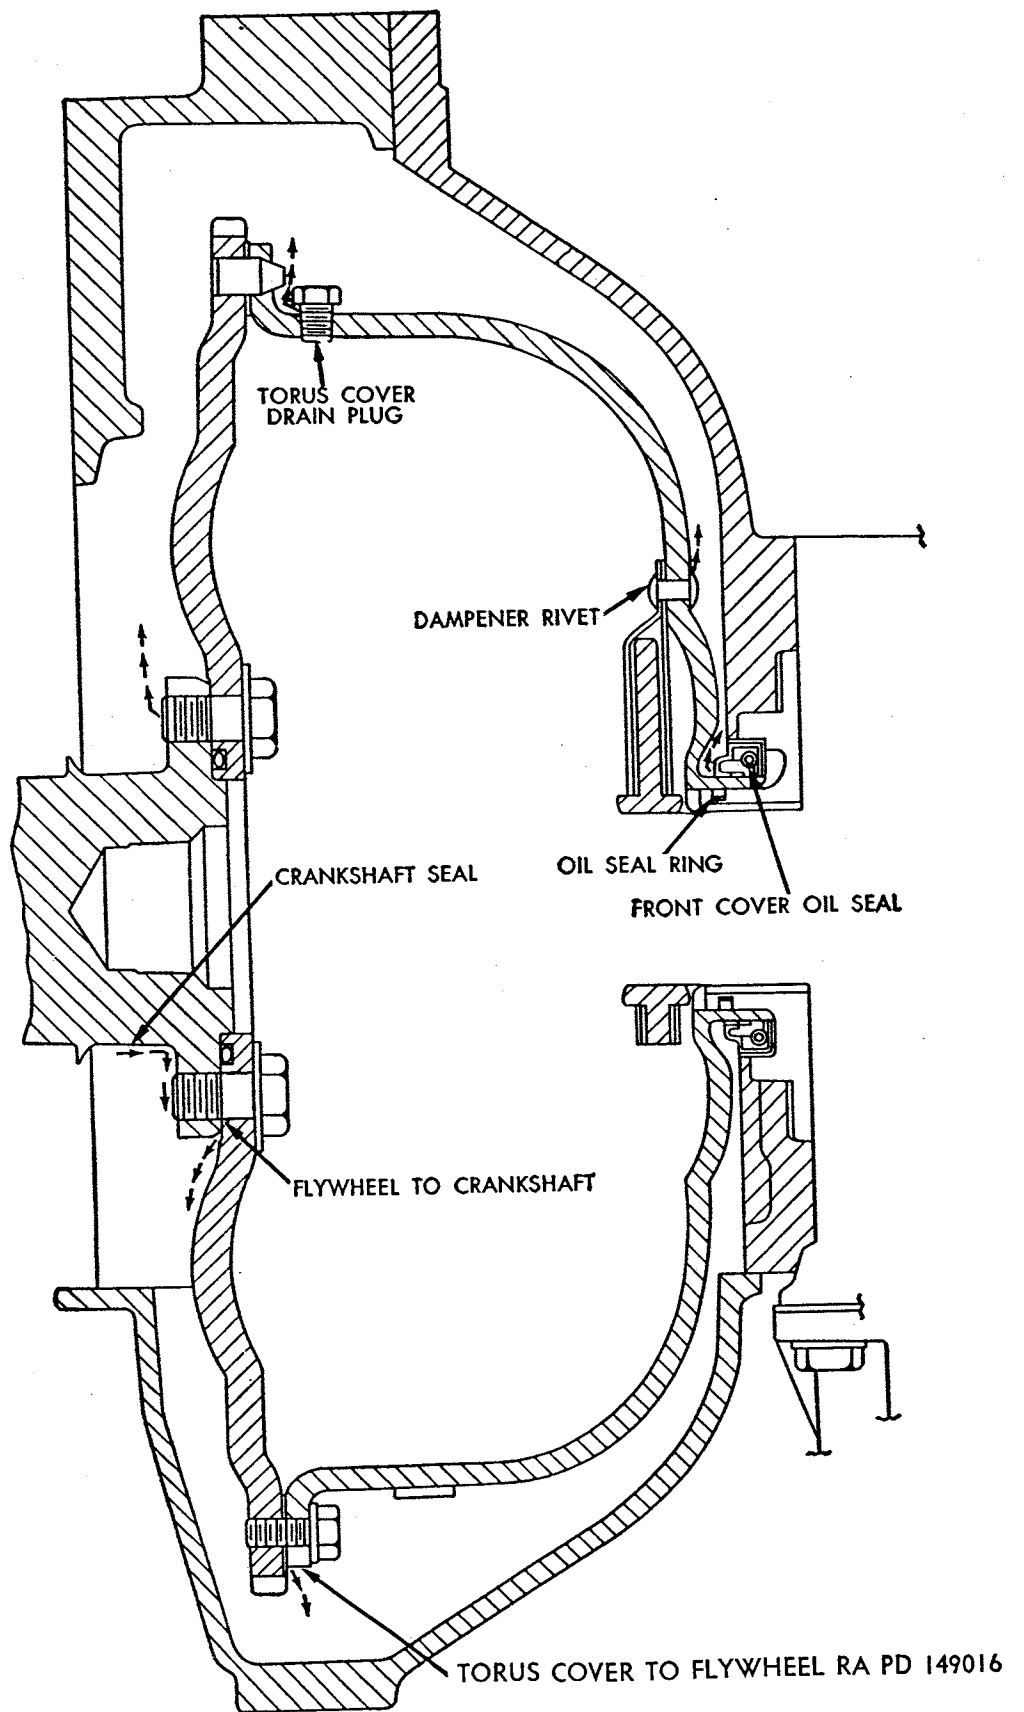

Figure 188. Location of possible oil leaks.
b. At Flywheel and Torus Cover (fig. 188).
- (1) Remove eight cap screws and lockwashers attaching flywheel housing cover to flywheel housing; then remove cover.
- (2) Using dry-cleaning solvent or volatile mineral spirits, wash flywheel and torus cover thoroughly; then dry completely.
- (3) Spread a clean piece of white or brown paper under flywheel and torus cover.